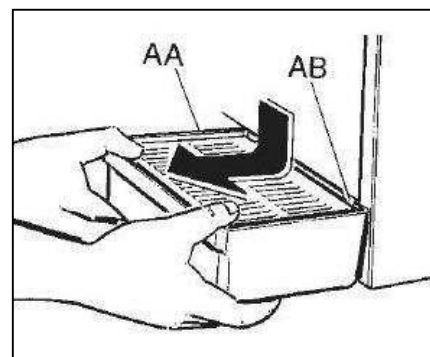

Fig. 21
- Remove the liquid-collector tray (AA) turning it slightly upwards and pulling it forward (see figure 21). Wash each part thoroughly, then reassemble the parts by inversely following the procedures described above.